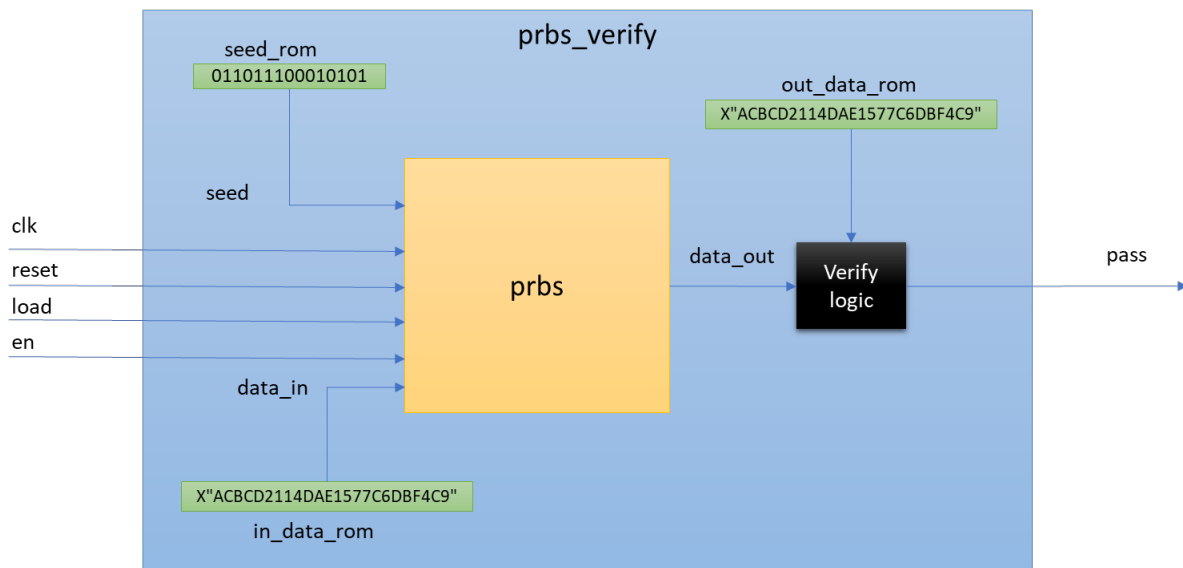

Figure 2: PRBS verify wrapper
The PRBS verify wrapper (`prbs_verify`) is shown in Figure 2. It encloses the `prbs` module, a ROM (constant register) that holds the value of the seed (`seed_rom`), a second ROM (`in_data_rom`) that holds the test value of the input data sequence (`data_in`), a third ROM (`out_data_rom`) that holds the expected value of the output data sequence (`data_out`), and a block that contains a verifying logic to check the output data sequence against the values of the data stored in the output data ROM. If there is no mismatch, then the `pass` output is asserted. The `prbs_verify` module takes an input clock (`clk`), an active high reset, a seed load input (`load`), and an enable input (`en`). Those inputs are passed through to the `prbs` block. The input clock is connected to the 50 MHz clock on DE0-CV board. The reset input is connected to a push button switch. Both `load` and `en` are connecting to a sliding switch. The `pass` output is connected to a LED.
- a. Design an RTL implementation of the PRBS verifier shown Figure 2. Name the file `prbs_verify.vhd`